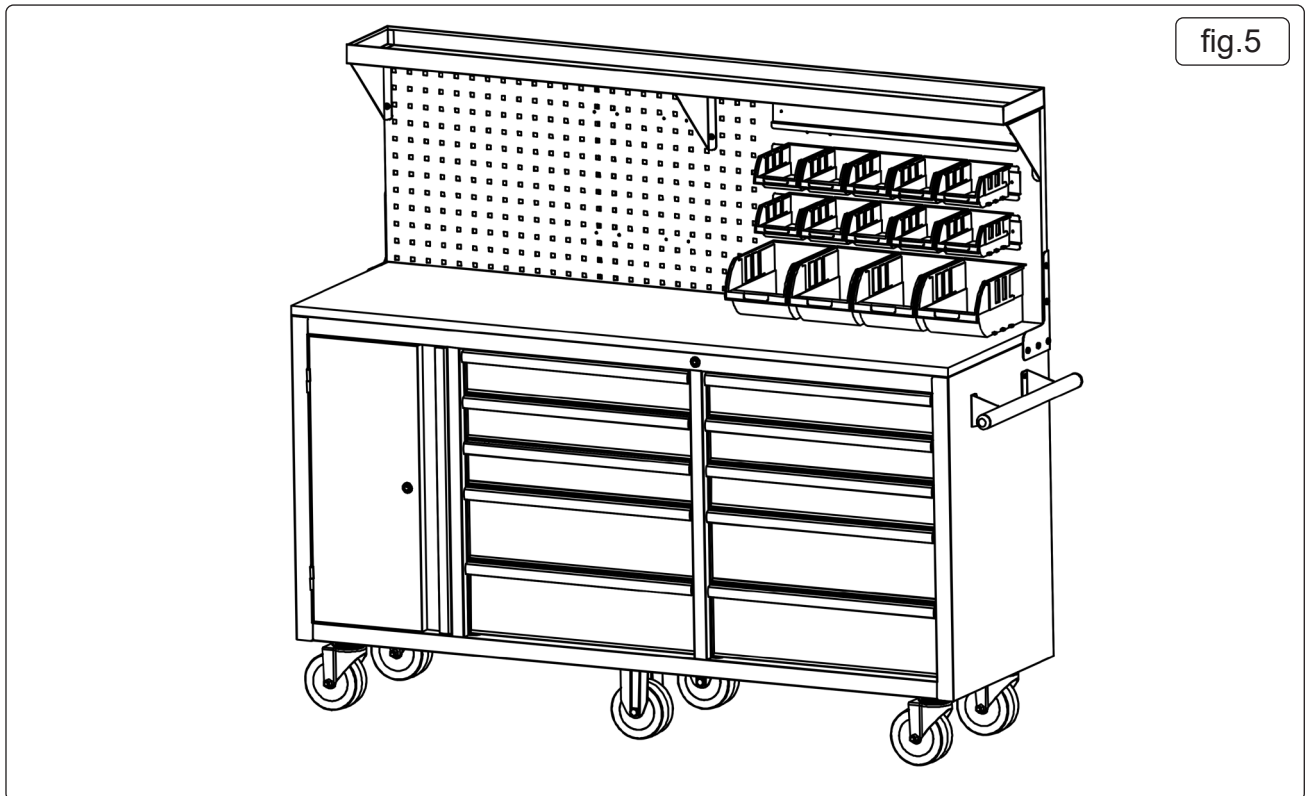

fig.5
4.5. Install the side handle over the swivelling castors. (fig.5).